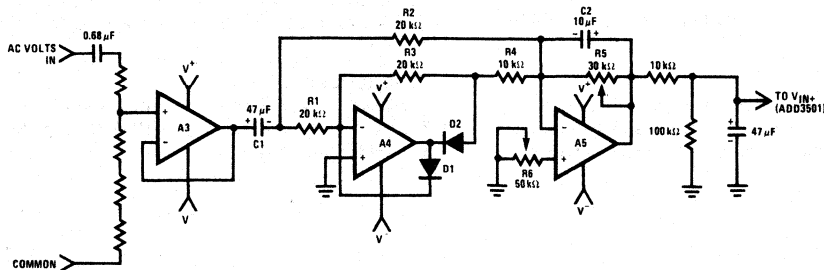

FIGURE 2. AC/DC Converter
**AC Voltage Measurement.** Switching the DMM to its AC VOLTS mode brings the circuit of Figure 2 into function. This circuit operates as an averaging filter to generate a DC output proportional to the value of the rectified AC input; this value, in turn, is "tapped down" by R5 to a level equivalent to the input's rms value, which is the value displayed by the DMM.
A4 and A5 comprise the actual AC-to-DC converter; to see how it works refer again to Figure 2, and consider first its operation on the negative portion of an AC input signal. At the output of A4 are 2 diodes, D1 and D2, which act as switches. For a negative input to A4's inverting input, D1 turns on and clamps A4's output to 0.7V, while D2 opens, disconnecting A4's output from A5's summing point (the inverting input). A5 now operates as a simple inverter: R2 is its input resistor, R5 its feedback resistor, and its output is positive.
The third possible improvement—the reading of true-rms values—can be implemented by replacing the AC-to-DC converter of *Figure 2* with National's LH0091, a true-rms-to-DC converter, and appropriate interface circuitry.